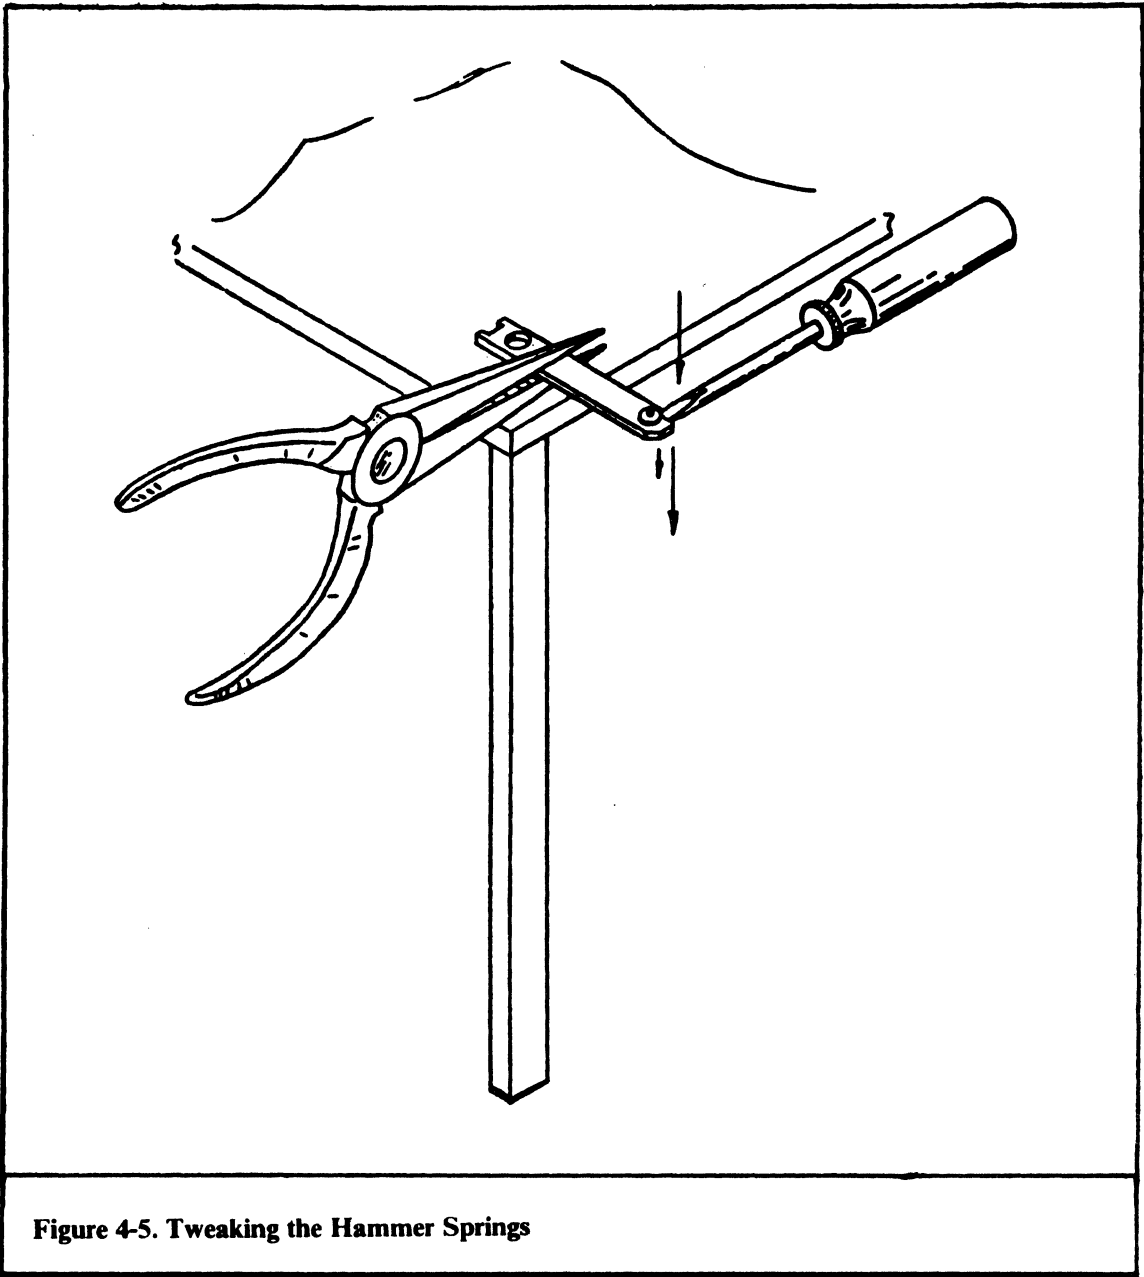

Figure 4-5. Tweaking the Hammer Springs
- c. Grip the spring in a pair of longnose pliers so that the screw hole is just covered and tweak the spring in the direction opposite the hammer tip (**Figure 4-5**).